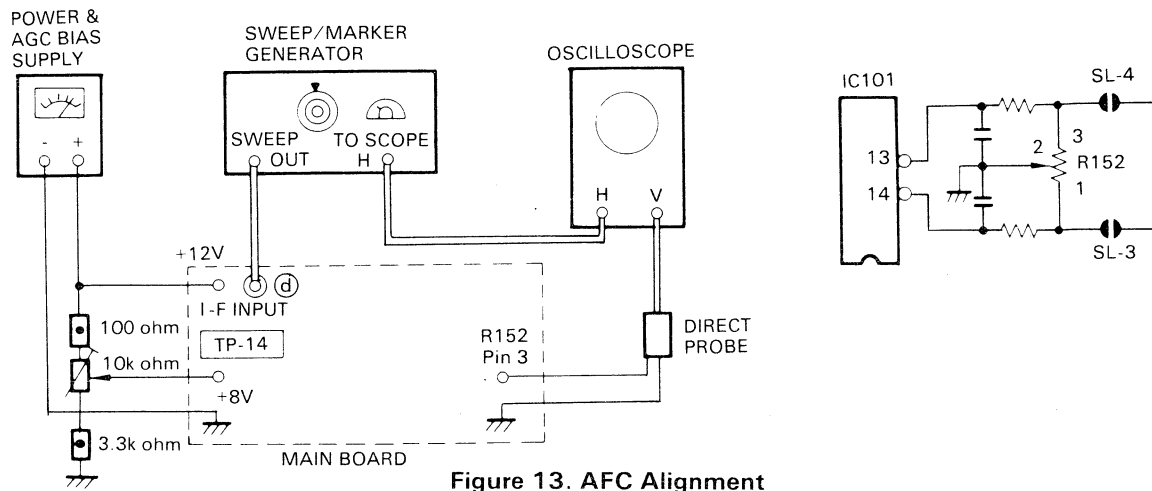

Figure 13. AFC Alignment
- GENERAL** Refer to Figure 13 for test equipment connection.